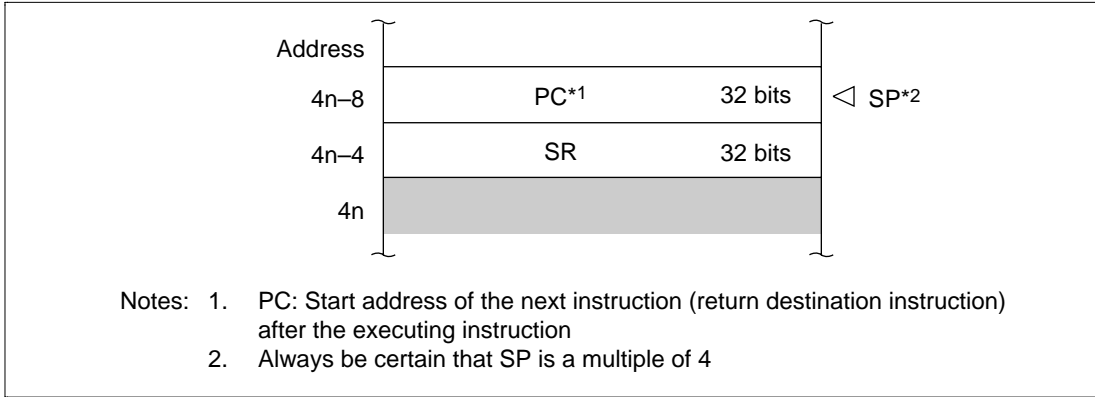

Figure 6.4 Stack after Interrupt Exception Processing
3. The interrupt controller compares the priority level of the selected interrupt request with the interrupt mask bits (I3–I0) in the CPU's status register (SR). If the request priority level is equal to or less than the level set in I3–I0, the request is ignored. If the request priority level is higher than the level in bits I3–I0, the interrupt controller accepts the interrupt and sends an interrupt request signal to the CPU.
4. The CPU detects the interrupt request sent from the interrupt controller when it decodes the next instruction to be executed. Instead of executing the decoded instruction, the CPU starts interrupt exception processing (figure 6.4).
Figure 6.4 shows the stack after interrupt exception processing.